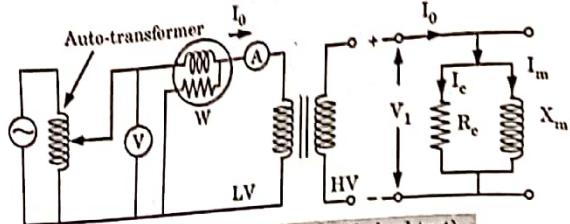

Fig. 4.16.1. Open-circuit test (No-load test).
- The circuit diagram for performing open-circuit test on single-phase transformer is given in Fig. 4.16.1.